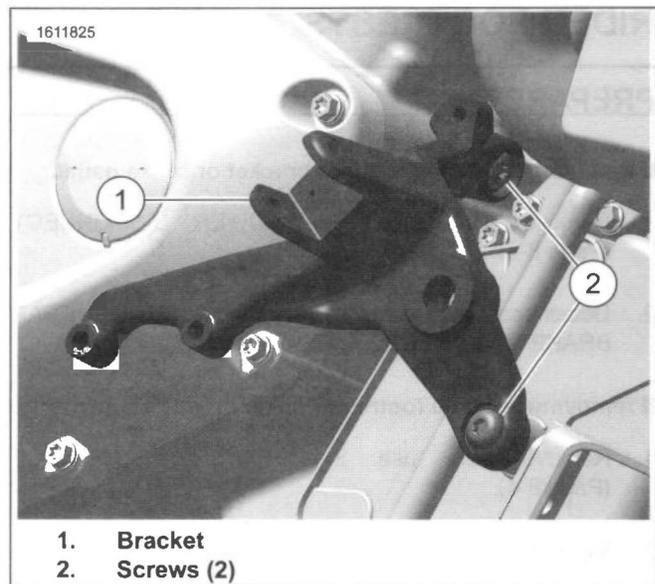

Figure 3-98. Right Footrest Bracket
1. See Figure 3-98. Remove screws (2).
2. Remove bracket (1).
1. See Figure 3-98. Install bracket (1).
2. Install screws (2). Tighten both screws.